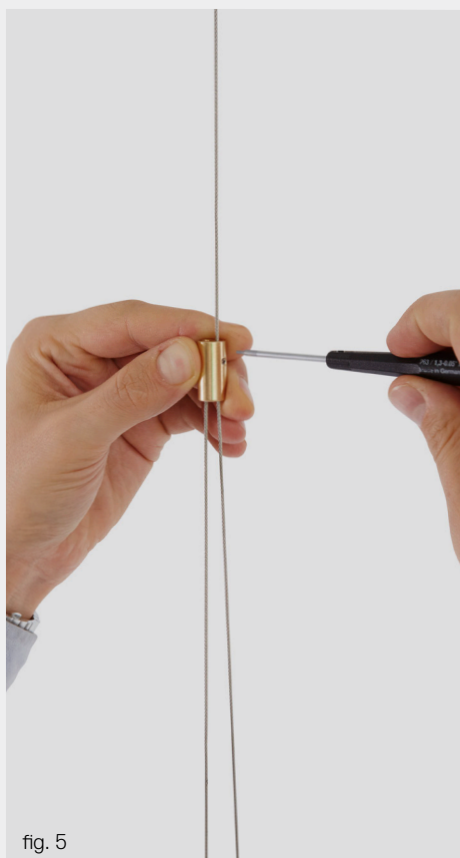

fig. 5
8. Thread cable back up through hole in cable grip and tighten set screw in cable grip using short driver **H** with around 1½' slack between cable grip and Palindrome (fig. 5).
16. To fine tune Palindrome height, loosen set screw in hang terminal and slide barrell up or down cable (fig. 5).